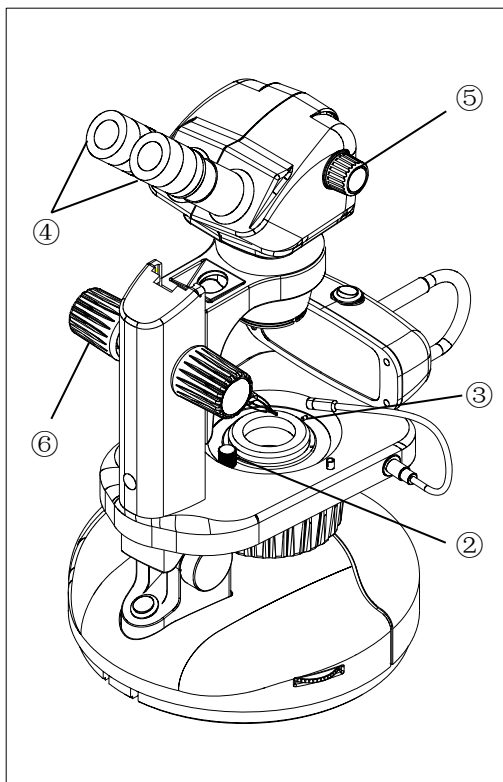

Fig. 8
3.2.2 Adjusting diopter ring (Fig.8)